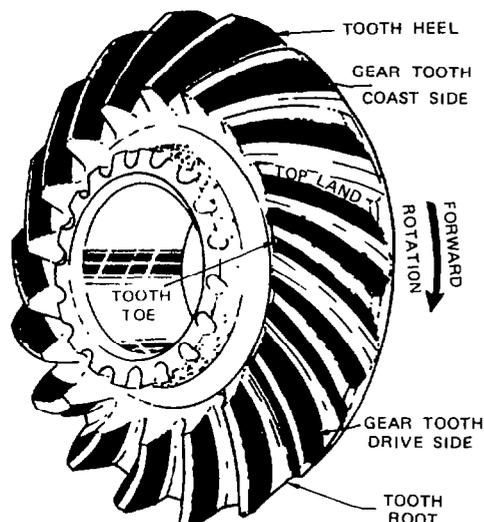

Fig. 329 — Pinion to Crown Wheel Tooth Contact Pattern
- e. Compare the tooth contact with those shown in figs. 329.